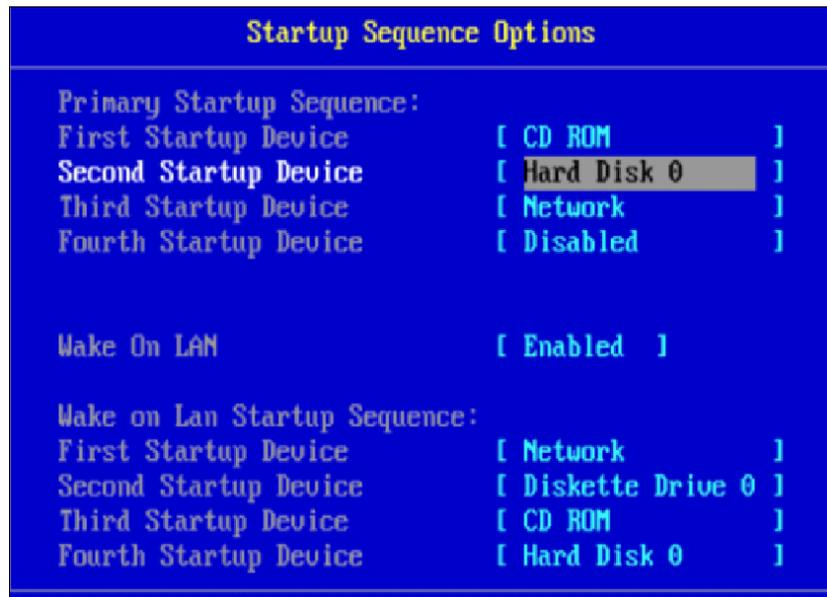

Figure 18-36 Selecting Hard Disk 0 in Startup Sequence Options panel
5. Scroll up to Startup Sequence Options and press Enter. Make sure that the Startup Sequence Option is configured, as shown in Figure 18-36.